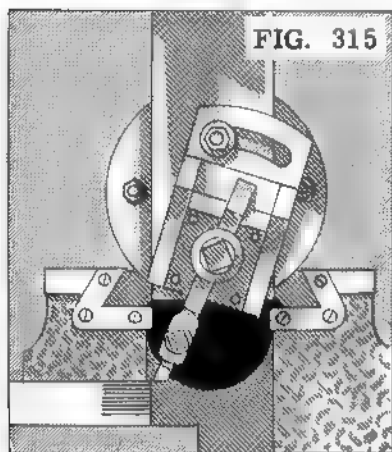

FIG. 315
4. Mount the tool holder in the tool post. Allow it to extend just far enough for the tool to reach the lower horizontal surface without having the tool slide strike the job. At the same time, place the tool holder in a position (slightly angular) which will enable the tool to cut to the corner without having its holder rub on the vertical surface (Fig. 315).